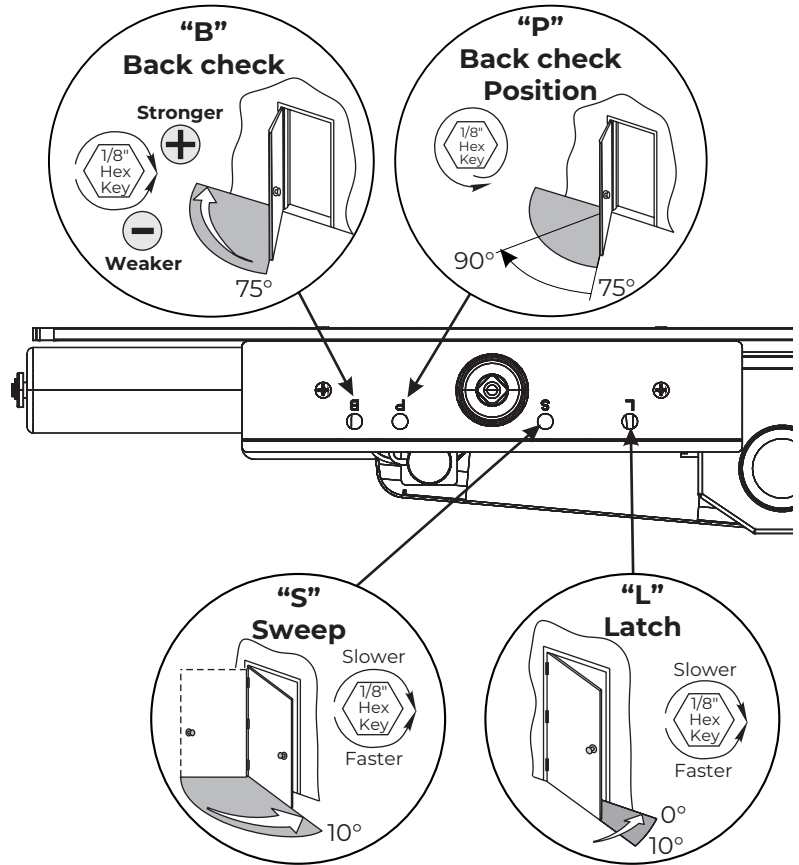

Figure 26 View of Left Hand operator from ceiling looking down
1. Closing Speed Controls (Figure 26)
2. Opening Cycle (Figure 26)